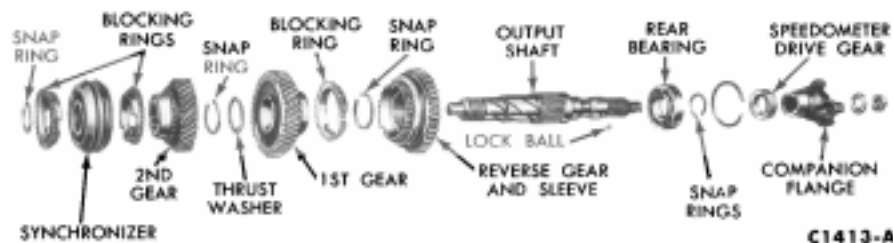

FIG. 16—Output Shaft Disassembled
21. Remove the snap ring from the front of the output shaft, then slide the synchronizer and the second-speed gear (Fig. 16) off the shaft.
5. Position the first and reverse gear and sleeve (Fig. 16) in an arbor press with the spur-type teeth facing up. Press the output shaft into the hub. Secure it in place with a snap ring.